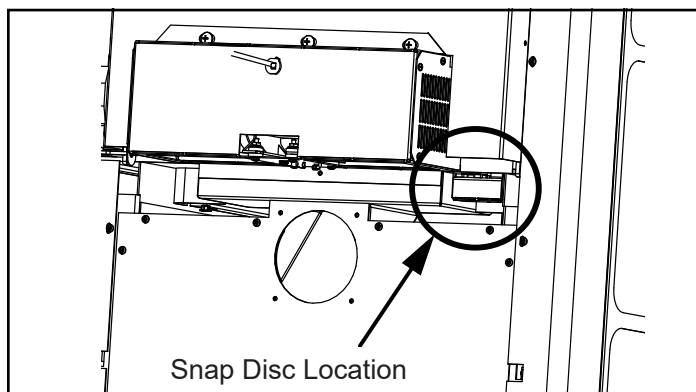
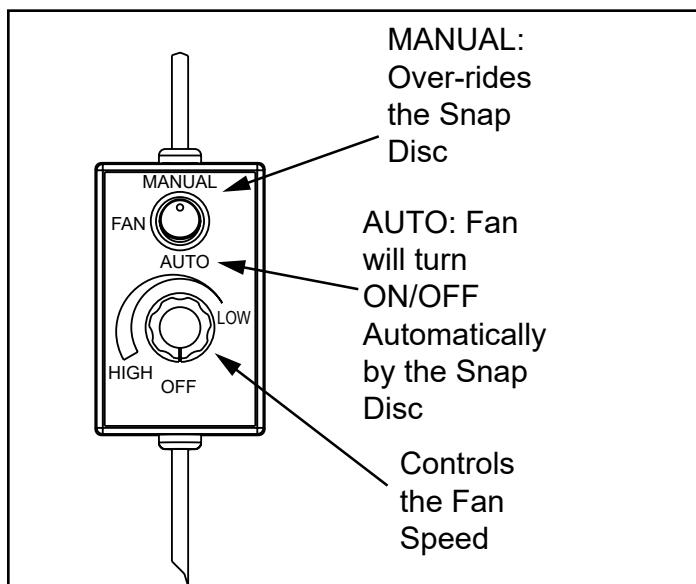

Figure 13.1
Figure 13.2
- 3. Snap Disc Location:** If you find the blower coming on and off at undesirable temperatures, relocate the snap disc to another location in the designated zone on the back of the appliance (**Figure 13.1**). There is a manual over-ride switch to deactivate the snap disc, if necessary (**Figure 13.2**).